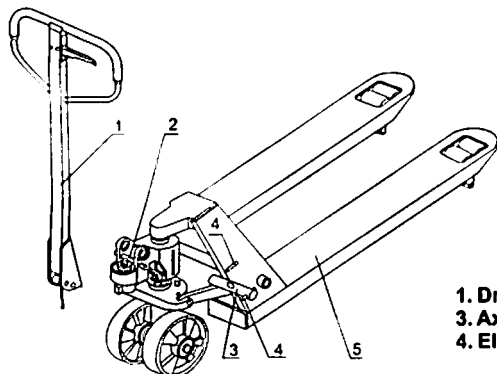

Fig. 1
2.3 Press the draw-bar (110, 110B or 111G) down, take away the pin(#2) (See Fig. 1).